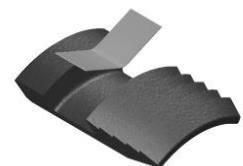

Fig. 3
**NOTE7:** Install one (1ea) slip spring per slip (Fig. 3).